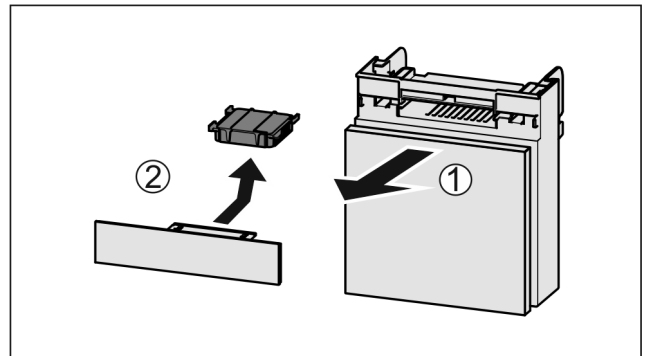

Fig. 62
- ▶ Pull out the compartment Fig. 62 (1).
- ▶ Remove the carbon filter Fig. 62 (2).